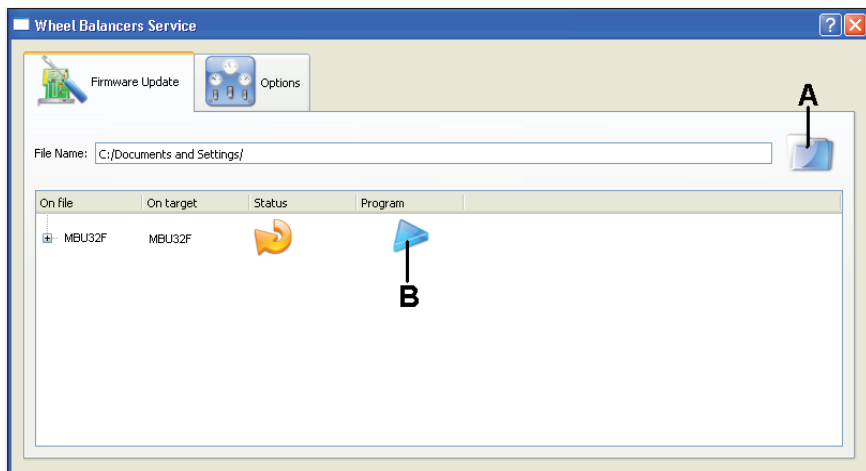

Fig.5B
- Select the folder icon A of figure 5B and upload in the programme the file with the .cef extension relative to the firmware version to update, previously downloaded from the web.
- Activate the Firmware Update and select the icon B, figure 5b to start the programming procedure.